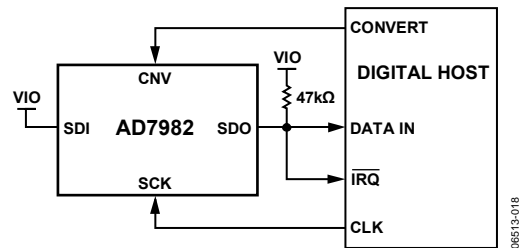
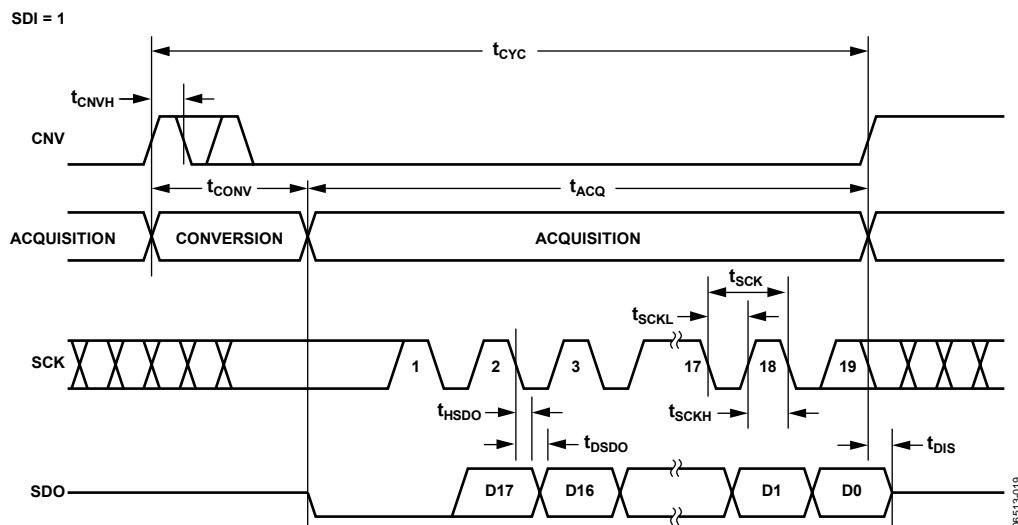
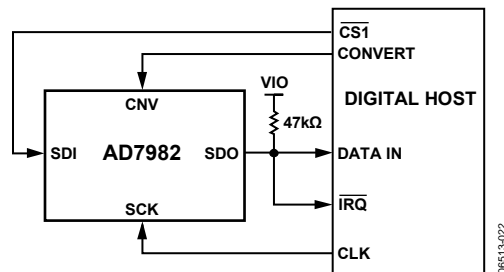
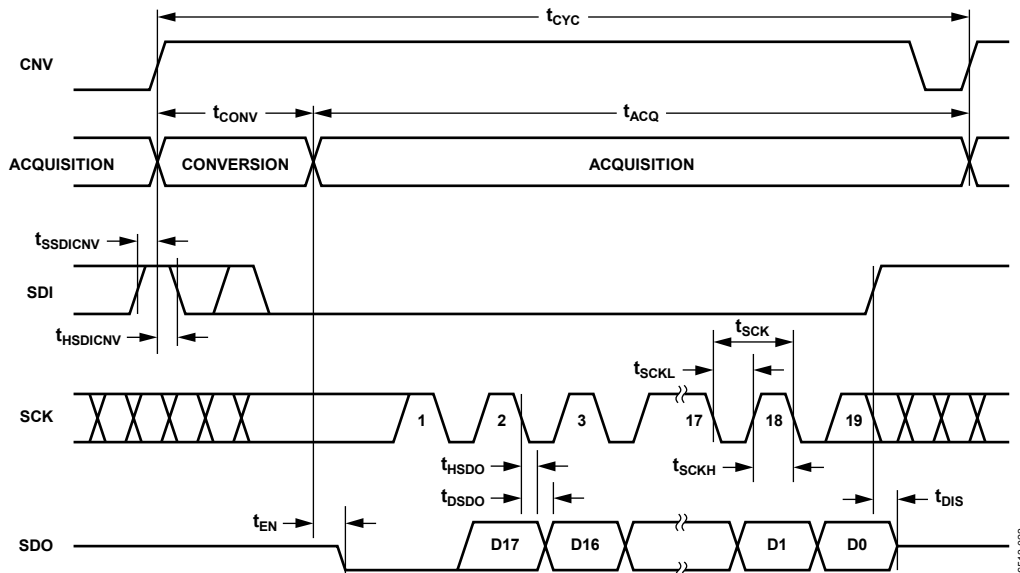

Figure 31.  $\overline{\text{CS}}$  Mode, 3-Wire with Busy Indicator Connection Diagram (SDI High)
Figure 32.  $\overline{\text{CS}}$  Mode, 3-Wire with Busy Indicator Serial Interface Timing (SDI High)
Figure 35.  $\overline{\text{CS}}$  Mode, 4-Wire with Busy Indicator Connection Diagram
Figure 36.  $\overline{\text{CS}}$  Mode, 4-Wire with Busy Indicator Serial Interface Timing
- In the  $\overline{CS}$  mode if CNV or SDI is low when the ADC conversion ends (see Figure 32 and Figure 36).
The connection diagram is shown in Figure 31, and the corresponding timing is given in Figure 32.
The connection diagram is shown in Figure 35, and the corresponding timing is given in Figure 36.